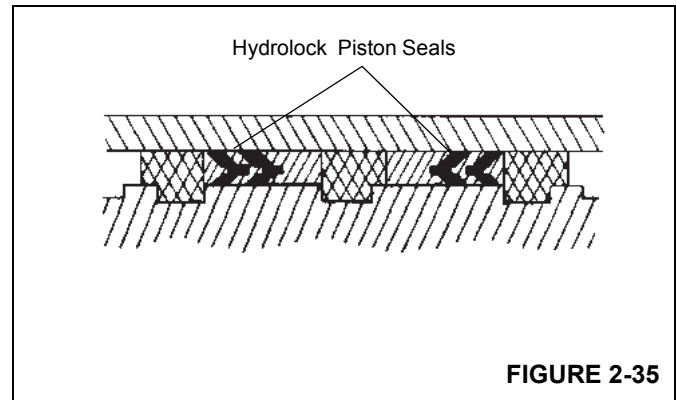

FIGURE 2-35
15. Install the hydrolock seals onto the piston (Figure 2-35).